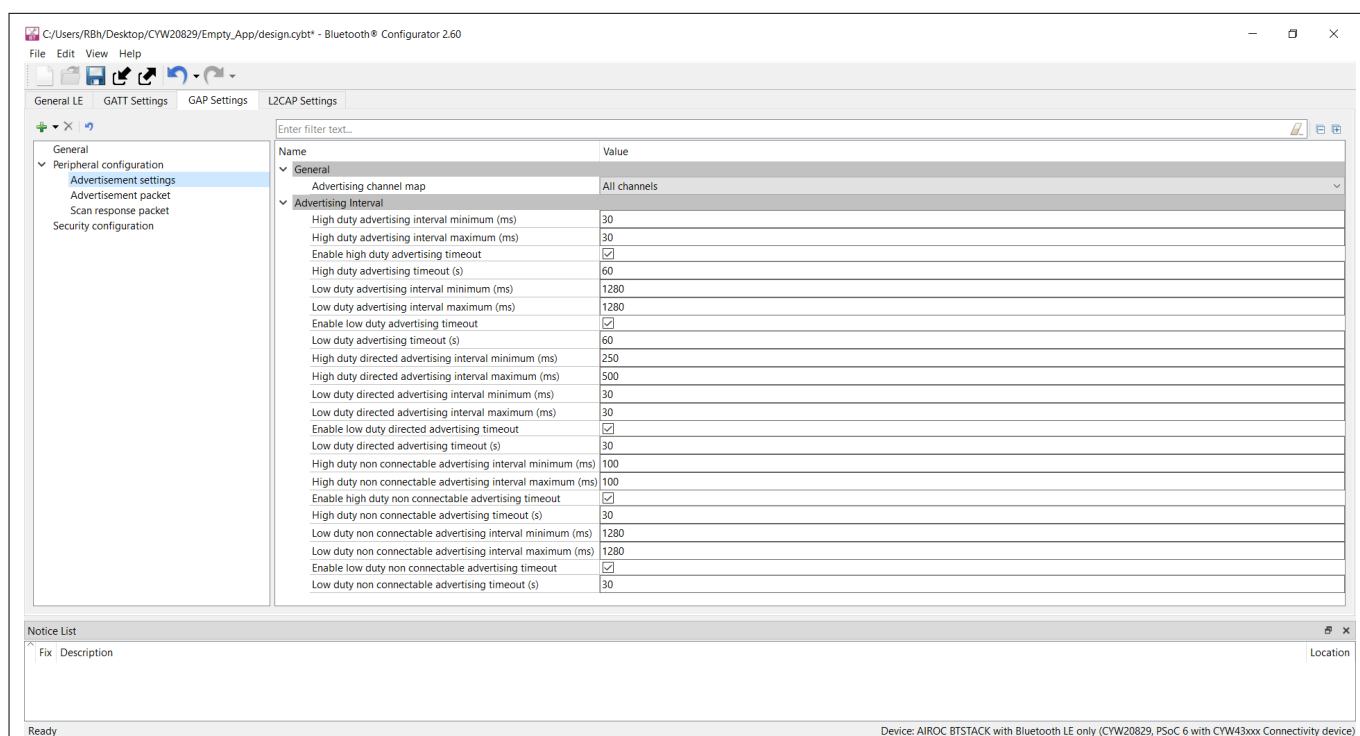

Figure 25 GAP advertisement settings
- Click the Advertisement settings item in the left menu. Default values work for this application (see Figure 25). It uses a high-duty advertising interval of 30 ms and a low-duty advertising interval of 60 ms. High-duty advertising allows quick discovery and connection but consumes more power because of increased RF advertisement packets